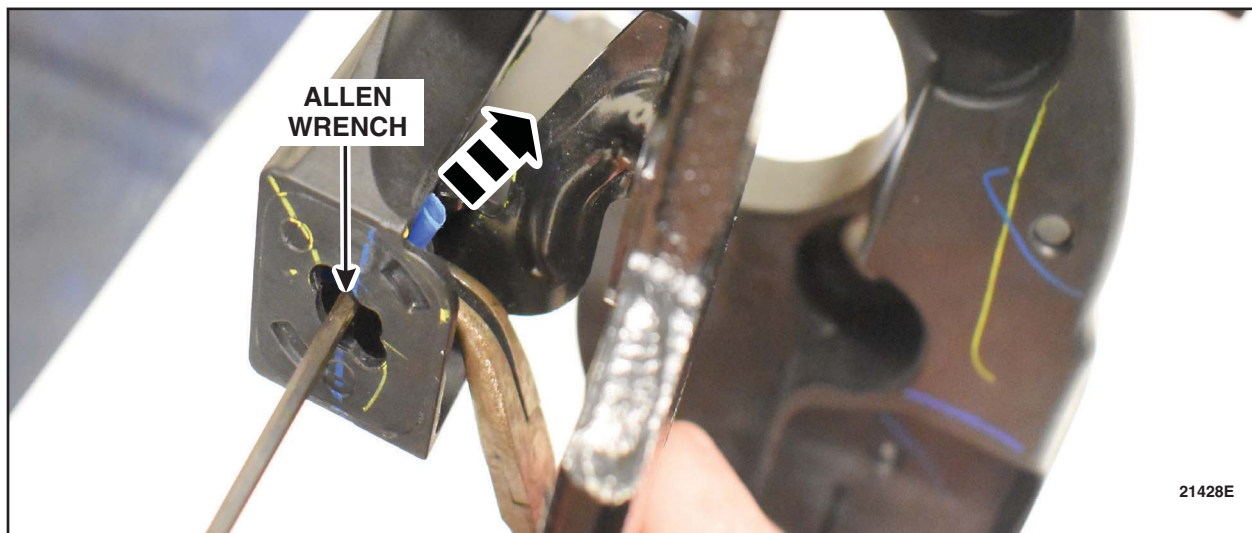

FIGURE 5
4. Insert a small allen wrench through the stoplamp switch opening and push the **new** brake pedal bumper into place. See Figure 5.